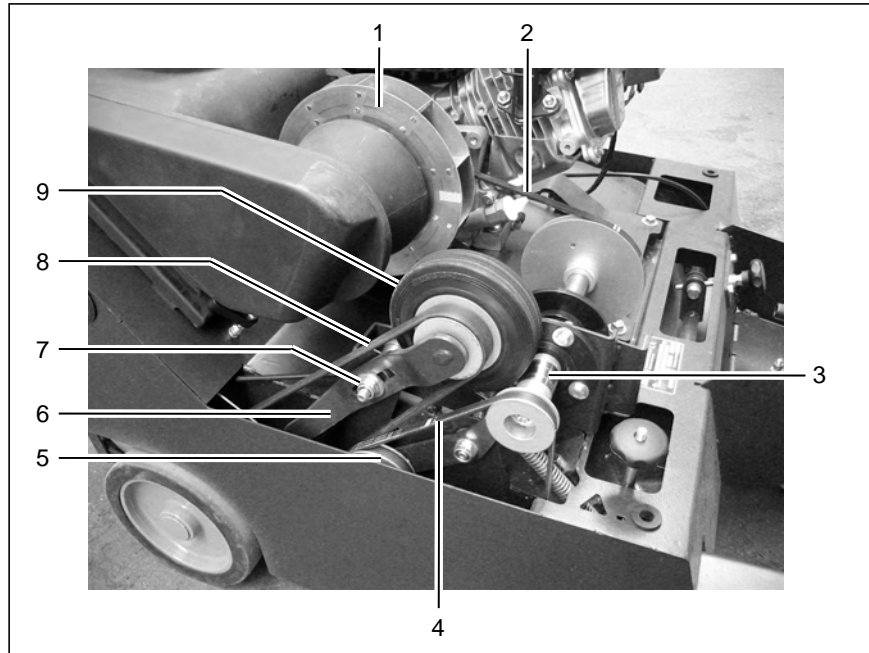

Fig. 16
Ensure the engine has stopped before opening the hood. Risk of injury through running belt drives (Fig. 16/2+4+8) and rotating fan (Fig. 16/1)!
If you notice that the rear wheel shaft is no longer driven properly, it is possible that the tension of the drive belts (Fig. 16/2+8) is no longer sufficient or the running surface of the friction wheel (Fig. 16/9) is worn (distance between wheel and running surface > 0.04 in).
1. Loosen the screw connection (Fig. 16/7) in the friction wheel crank (Fig. 16/6).
2. Tension the belt (Fig. 16/8) which leads to the rear wheel shaft by moving the friction wheel crank (Fig. 16/6) in the slot using an appropriate tool.
The friction wheel (Fig. 24/9) thereby lies against the drive shaft (Fig. 16/3).
3. Tighten the screw connection (Fig. 16/7) in the friction wheel crank (Fig. 16/6).
5. Turn the hexagon nut (Fig. 17/4) so far on the eye bolt (Fig. 17/5) until the tension spring (Fig. 17/2) tensions and the friction wheel retracts 0.04-0.08 in from the drive shaft (Fig. 16/3).